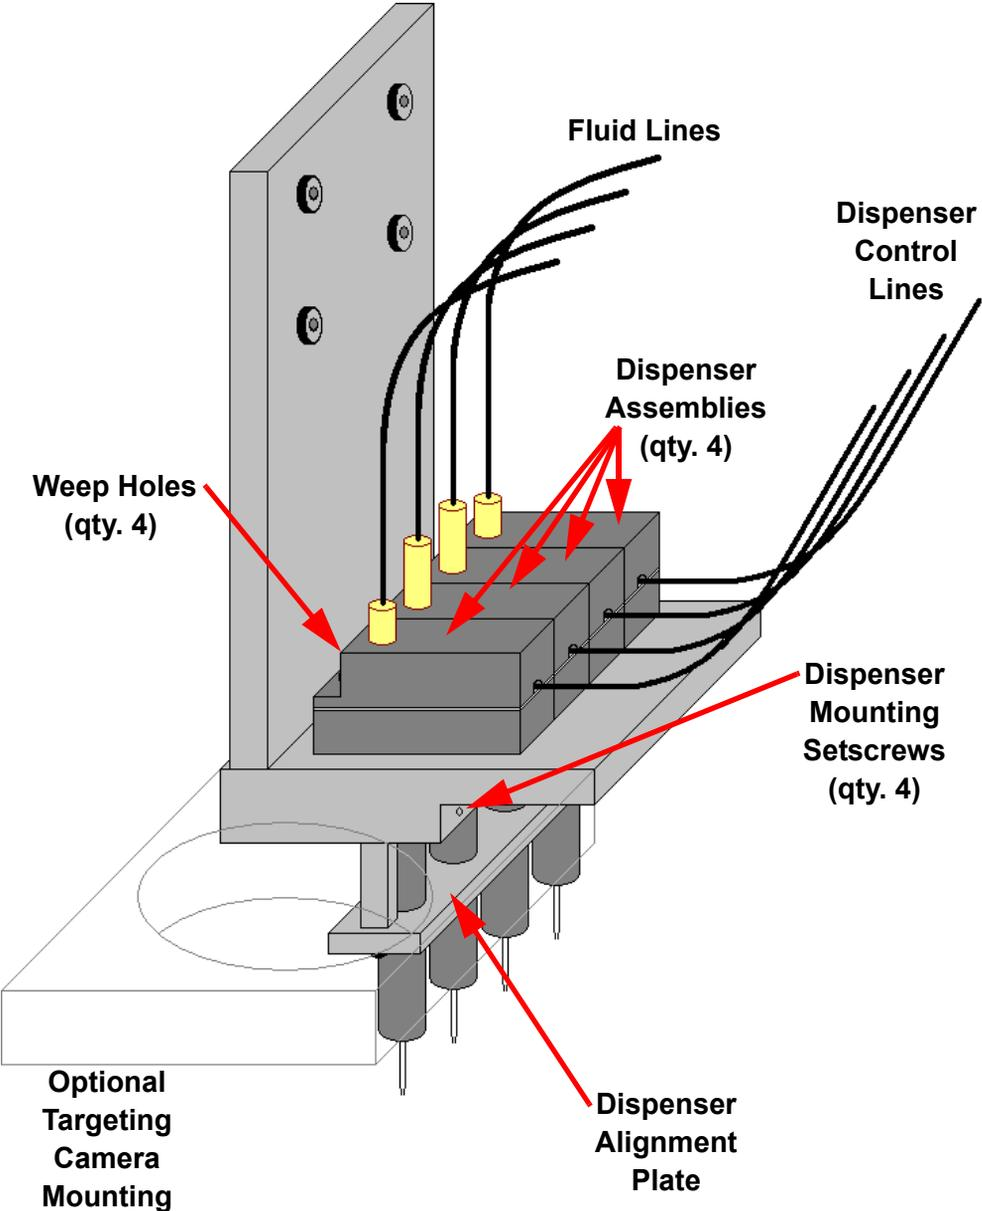

Figure 10-14. Dispenser Head Assembly.
8. Install the replacement tip into the dispenser assembly. Make sure that the tip is inserted straight and that the assembly body is oriented as shown in Figure 10-14. Avoid any contact with the inlet glass capillary.
13. Check for a leaking connection to the dispenser at the *Weep Holes* (Figure 10-14) on the backside of the dispenser assembly bodies.